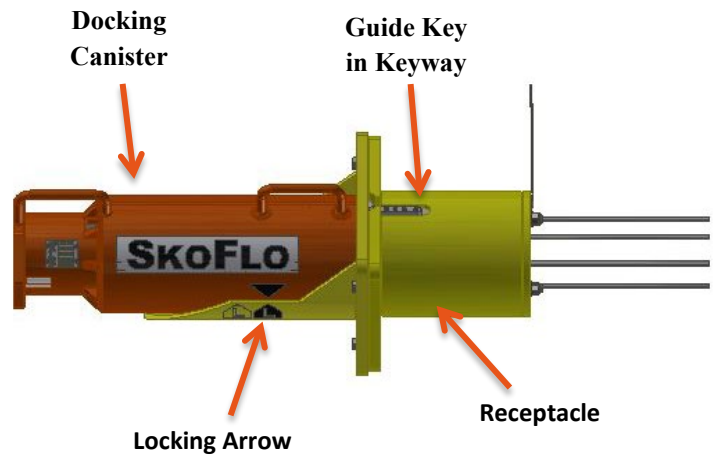

Figure 45: Horizontal Unit Docked
- 17.6.5 Position docking canister in front of receptacle with non-coated canister end pointed towards receptacle. Ensure that the CIMV key is aligned with the receptacle keyway. Refer to Figure 45.
WHEN CIMV IS FULLY DOCKED, THE GUIDE KEY WILL HAVE A GAP FROM THE BOTTOM OF THE KEYWAY. THE GAP IS TYPICALLY AROUND 0.75" (19 MM). IN ADDITION, IF CIMV HAS DOCKING ARROWS, THE ARROWS SHOULD BE ALIGNED, REFER TO FIGURE 45.